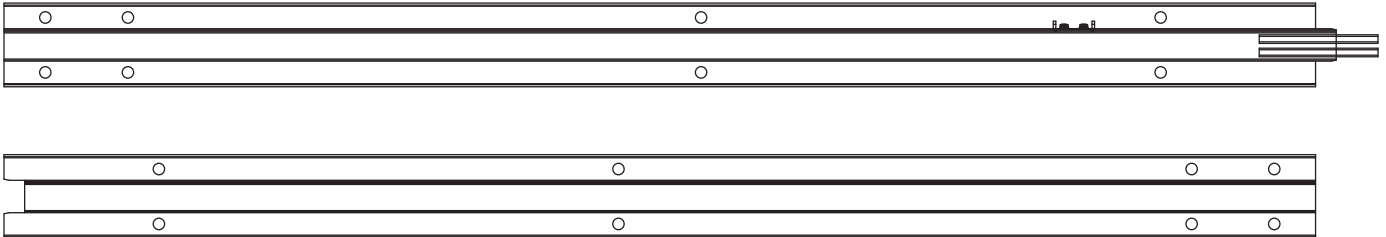
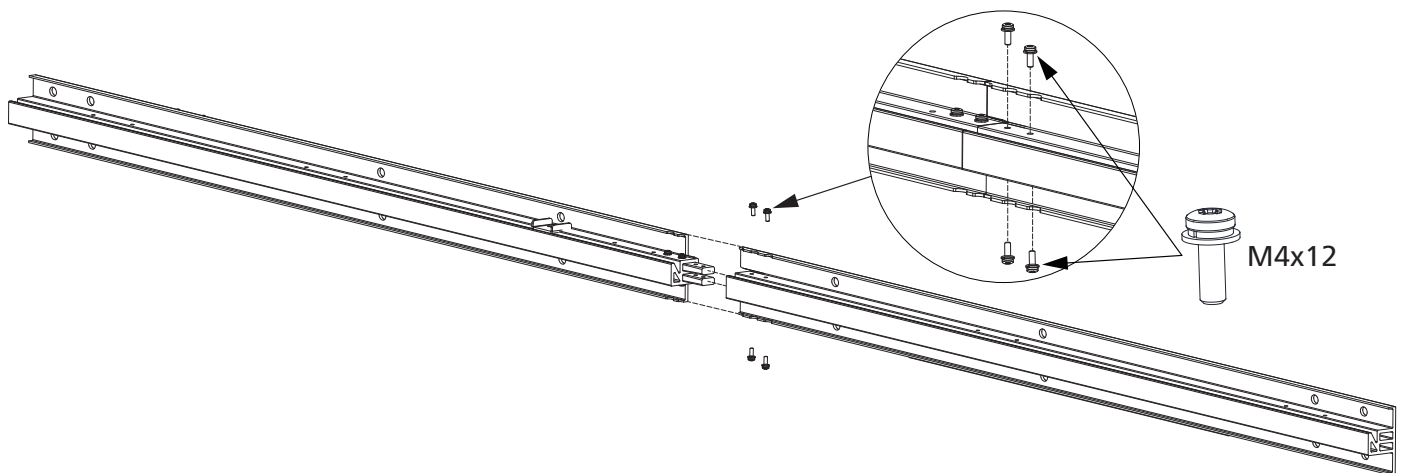

Figure 1 Crossbeam
Figure 2 Connect crossbeams with screws
1. Take out the crossbeams and connect it with screws, as shown in Figure 1 and Figure 2